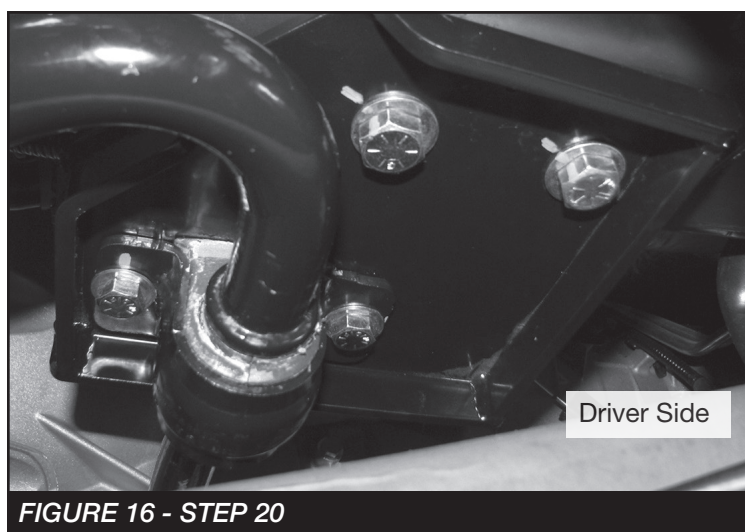
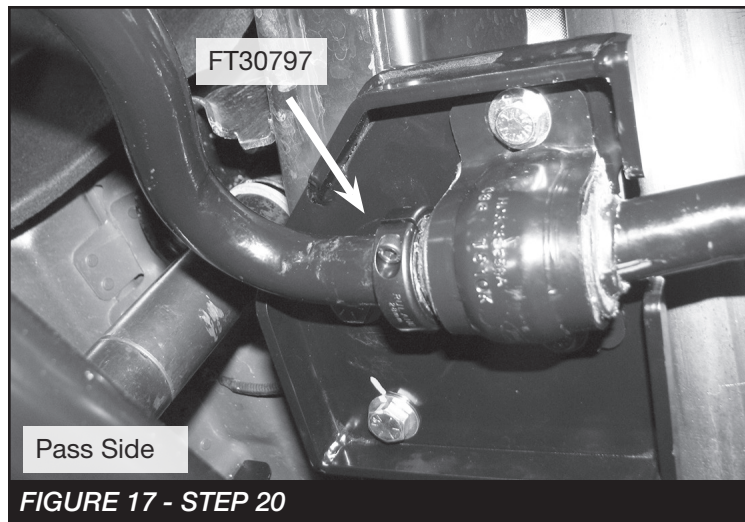

FIGURE 16 - STEP 20
FIGURE 17 - STEP 20
20. Install the factory sway bar to the new brackets using the supplied 7/16" hardware. **NOTE: The bushing and mount may need to be moved slightly to line the sway bar up centered to the vehicle. SEE FIGURES 16.** Install FT30797 (clamp) on the passenger side of the sway bar up against the factory bushing to prevent movement. **SEE FIGURE 17**